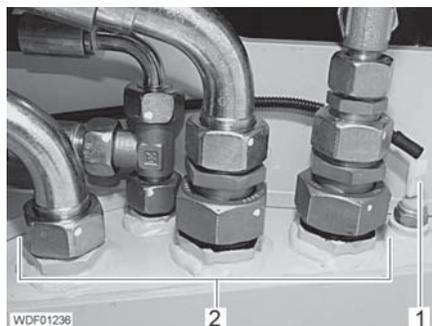

Fig. 220 Connections on the underside
- Remove the plug (Fig. 220,1) from the temperature sensor.
- Unscrew and close off the hydraulic lines (Fig. 220,2).
- Screw the hydraulic lines (Fig. 220,2) onto the connections on the hydraulic fluid tank and tighten.
- Attach the connector (Fig. 220,1) onto the pressure switch.